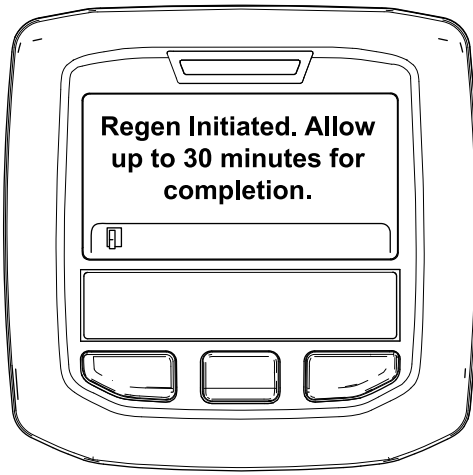

Figure 45
- If the regeneration is allowed, the "Regen Initiated. Allow up to 30 minutes for completion" message displays in the InfoCenter, wait for the machine to complete the parked regeneration process (Figure 45).